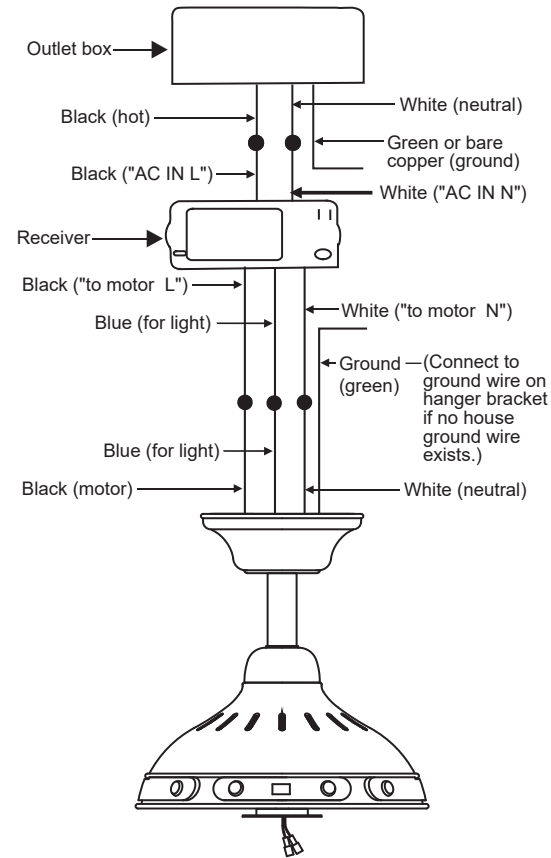

Fig. 14
Step 2. Motor to Receiver Electrical Connections: (**Fig. 14**) Connect the black wire from the fan to the black wire marked "TO MOTOR L" on the receiver. Connect the white wire from the fan to the white wire marked "TO MOTOR N" on the receiver. Connect the blue wire from the fan to the blue wire marked "FOR LIGHT" on the receiver. Secure all the wire connections with the plastic wire nuts provided.
Step 3. (**Fig. 14**) Receiver to House Supply Wires Electrical Connections: Connect the black (hot) wire from the ceiling to the black wire marked "AC in L" from the receiver. Connect the white (neutral) wire from the ceiling to the white wire marked "AC in N" from the Receiver. Secure the wire connections with the plastic wire nuts provided.
Step 4. (**Fig. 14**) Connect the ground wire (green or bare copper) from the outlet box to the ground wire on the ceiling mounting bracket and the ground wire from the ceiling fan. After making all connections, separate the white and green wire connections to one side and the black wire connections to the other side of the outlet box.